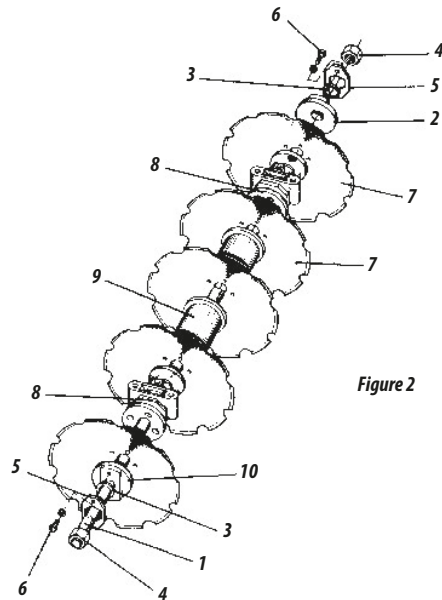

Figure 2
- 03 - Place the shaft Item 1, Figure 2, the concave thrust washer Item 2, one washer Item 3, a nut item 4, the latch item 5 and fix with the screw Item 6 as shown in figure 2. Note that the nut is facing with the tip of the shaft.
- 04 - Place the shaft item 1, the first disc item 7, one bearing * Item 8, another disc Item 7, the separator reel item 9 and so on, as figure 2.
- 05 - When the set is complete with all discs, bearings and separator reels, place the convex thrust washer item 10, the washer Item 3, another nut Item 4, giving a prior tightening to firm the set. Check if the washers and discs did not come out of the socket.